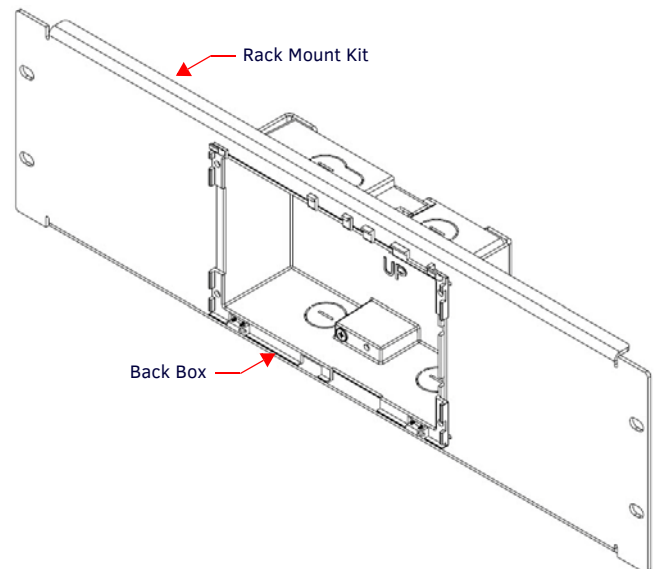

FIG. 3 FINAL ASSEMBLY OF THE MSA-RMK-07 WITH BACK BOX
4. With the Back Box anchored in the Rack Mount Panel (FIG. 3), you may now install the MSD-701 into the Back Box.